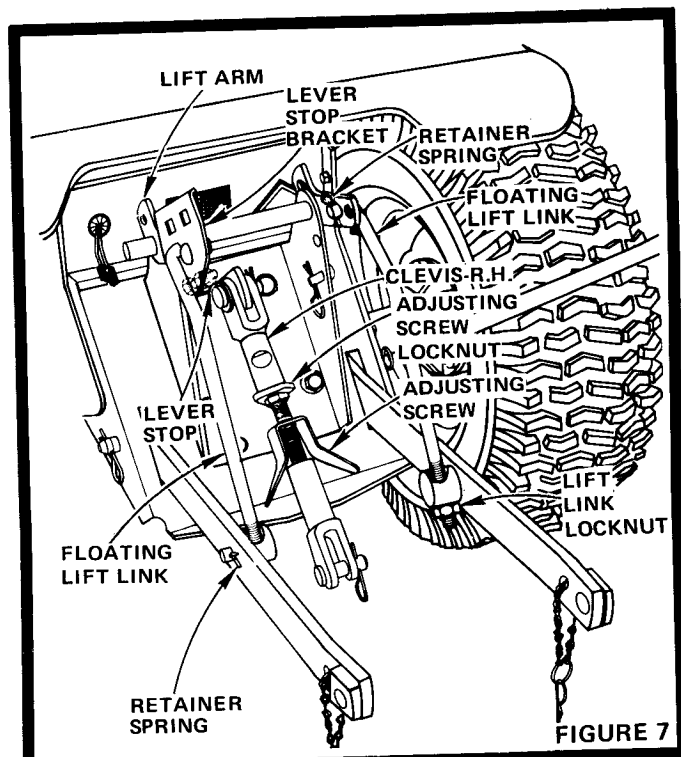

FIGURE 7
If your Roto-Tiller has a Limit Chain on the R.H. Floating Lift Link to prevent Lift Lever from striking rear tire, do not use the Lever Stop Bracket (Fig. 7) shipped in 3-Point Hitch Bag of Parts.
All other model Roto-Tillers have a Lever Stop Bracket (Fig. 7). You must use the Lever Stop Bracket (with 4 square holes) shipped in 3-Point Hitch Bag of Parts. Follow steps 1 thru 5.
2. Assemble Lever Stop to Lever Stop Bracket (Fig. 7) using:
- a. 8 H.P. ROTO-TILLER use outer holes in Lift Arm and Lever Stop Bracket (Fig. 7).
- a. 8 H.P. ROTO-TILLER use inner holes in Lift Arm and Lever Stop Bracket (Fig. 7).
- b. With Floating Lift Links (Fig. 7) adjust Lift Link Locknut.